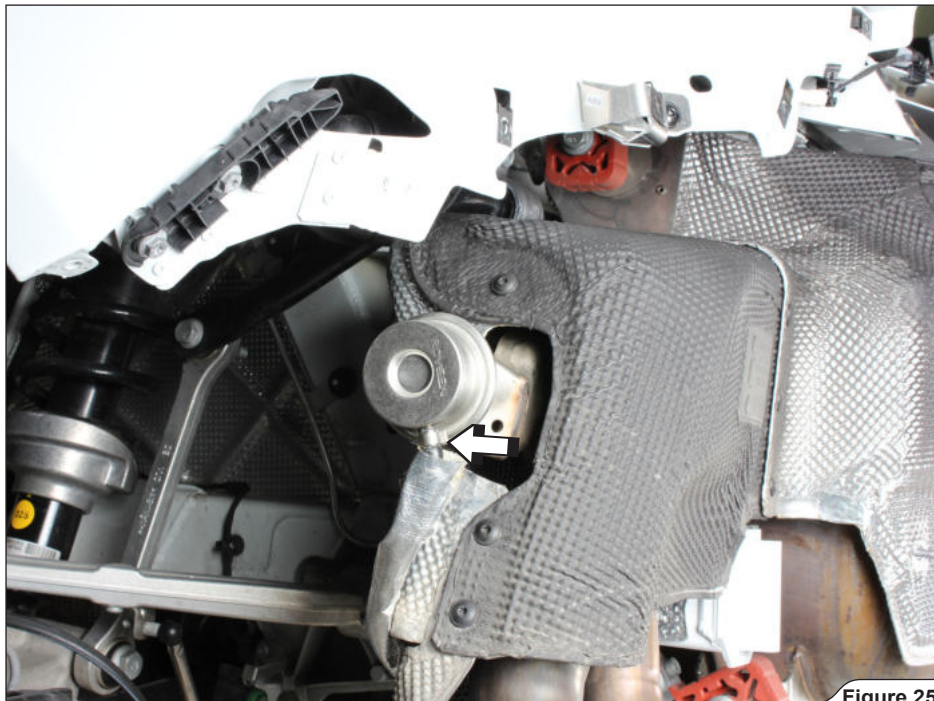

Figure 25
17. Carefully remove the vacuum tubes off both exhaust valves' actuators (**Figure 25**).